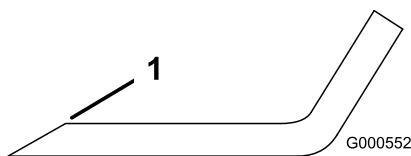

Figure 64
1. Use a file to sharpen the cutting edge at both ends of the blade (Figure 64).
**Note:** If the blade is not balanced, file some metal off the end of the sail area only (Figure 64).